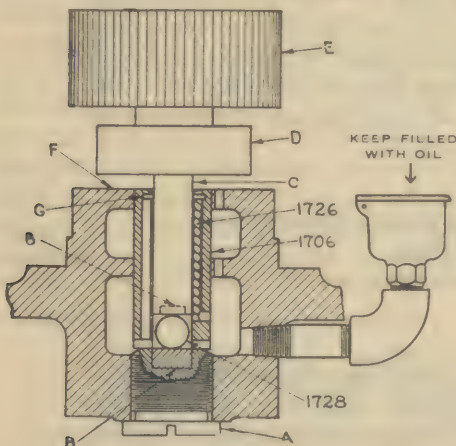

Fig. 6
Remove head from centrifuge shaft. [See "General Considerations" (1) (b) (Note).] Remove the top cap as in (e) above. Remove the oil well. Remove the carbon brushes from the motor. Remove the armature. Drain the oil from the lower bearing and oil cup. Turn the centrifuge upside down and recover the steel ball, No. 1728, as it rolls out. Remove the screw plug at the bottom bearing [See "Repairs (1) (b) (Note)"]. Disconnect the lead wires at the brush holders, one at a time, and return the screws to hold the insulation in place, *tagging the wires to insure return to proper places*. Remove the four cap screws securing the lower bracket and take off the bracket. Place it on a smooth wood bench or block, resting it on the machined flange. Drive out the bushing (using a hard wood dowel. The dowel should be approximately the diameter of the bushing and flat on the end.) Reverse the bracket and drive in the new bushing from the inside. It is important to see that bushing is right end up. The concentric grooved end should be at the top. The end face of the bushing should be flush with the finished surface of the bracket, F (Fig. 6). See that the wick comes only up to the lower edge of the concentric groove, G, near the top of the bearing. (Fig. 6.)